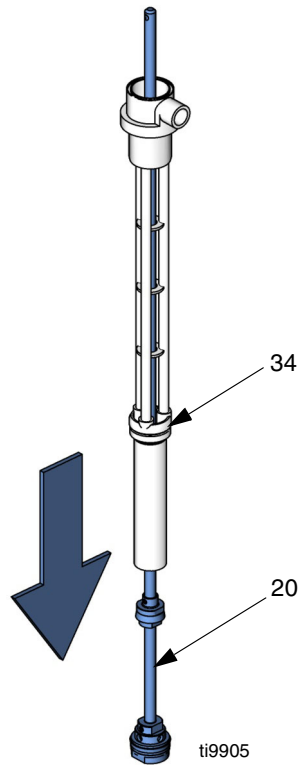

FIG. 19
- Pull transfer shaft (20) out the bottom of pump body (34). See FIG. 19.